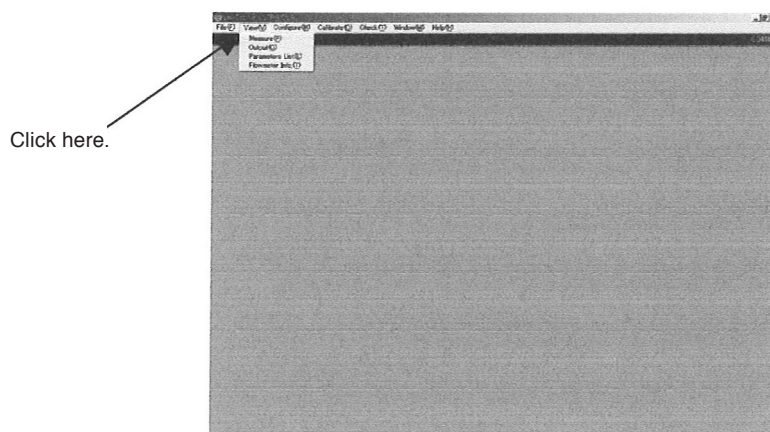

Fig.15
- ① Click on "View (V)" at top-level menu of the screen as shown in Fig. 15, select "Measure (P)" and click on again.